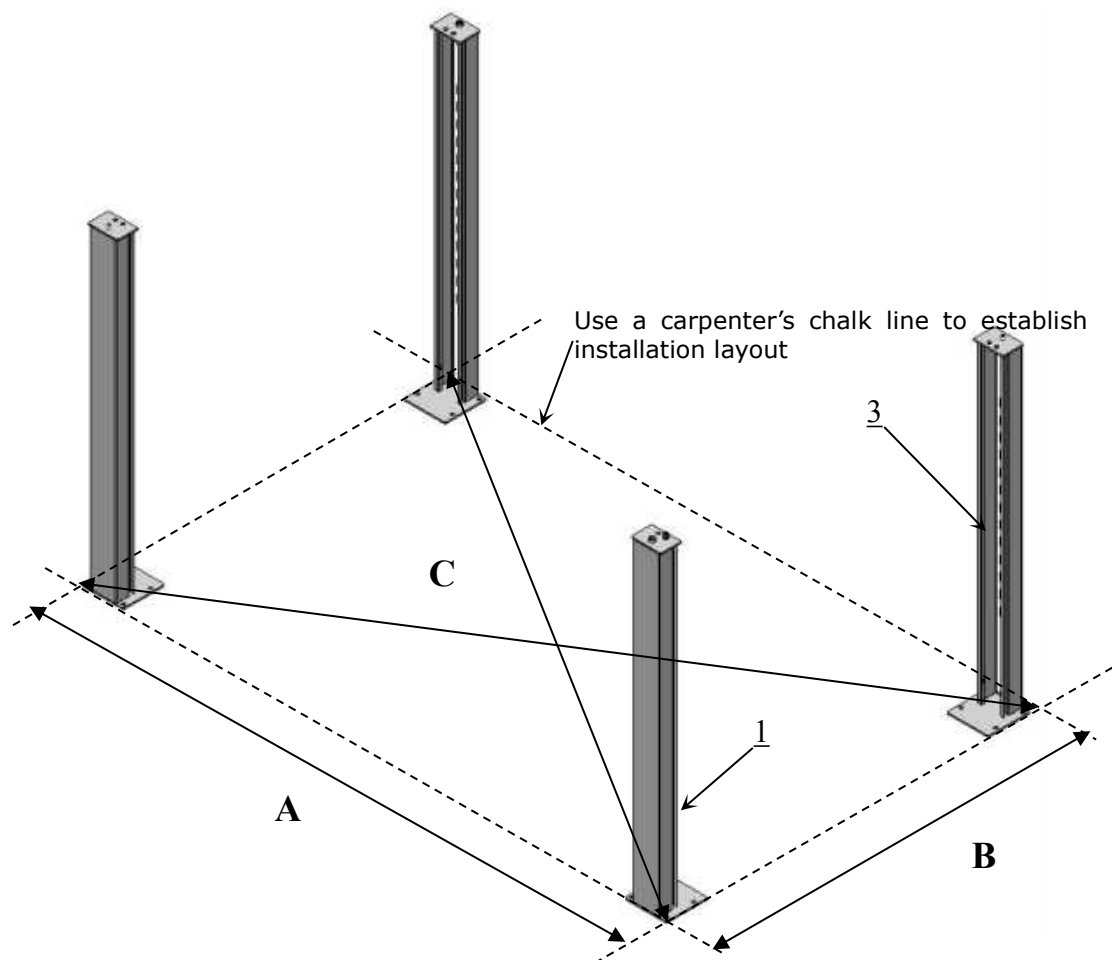

Fig. 12
6. Check the parts of parts box according to the parts box lift . **(See Fig. 12).**